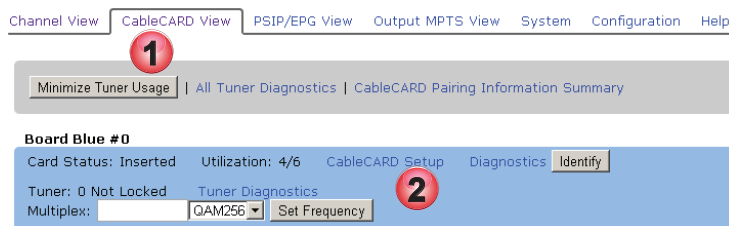

Figure 7-7: Motorola Module Authorization
1. Click the **CableCARD View** tab, Figure 7-7.